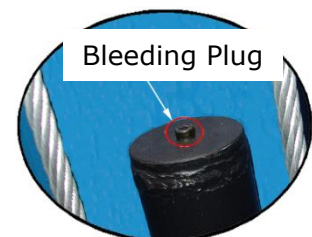

Fig. 62
3. Exhaust air from oil cylinder (See Fig. 62)